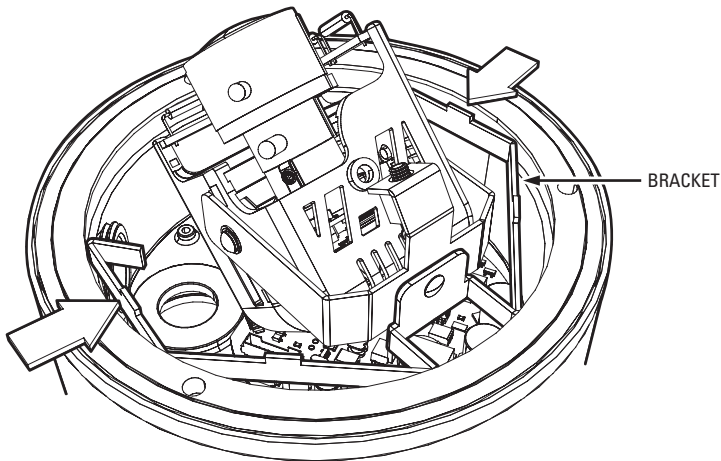

Figure 6. Camera Module Bracket
1. Gently squeeze the bracket and pull the module out of the back box (refer to Figure 6).
3. Gently squeeze the bracket, place it against the groove inside the back box, and gently release (refer to Figure 6 on page 16).